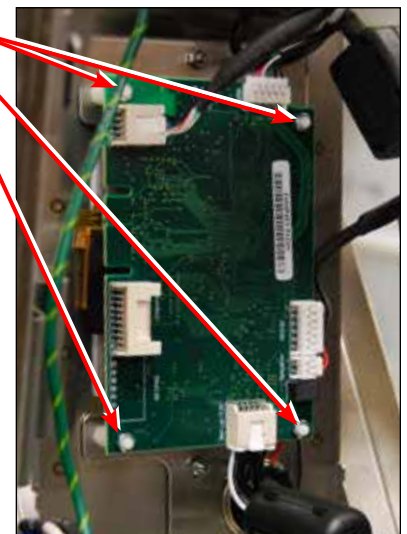

Figure 23b
4. Remove the 4 retaining nuts on each corner of the board. **CAUTION:** Lift the board gently – it is attached to the LCD by a ribbon cable. (Figure 23b)